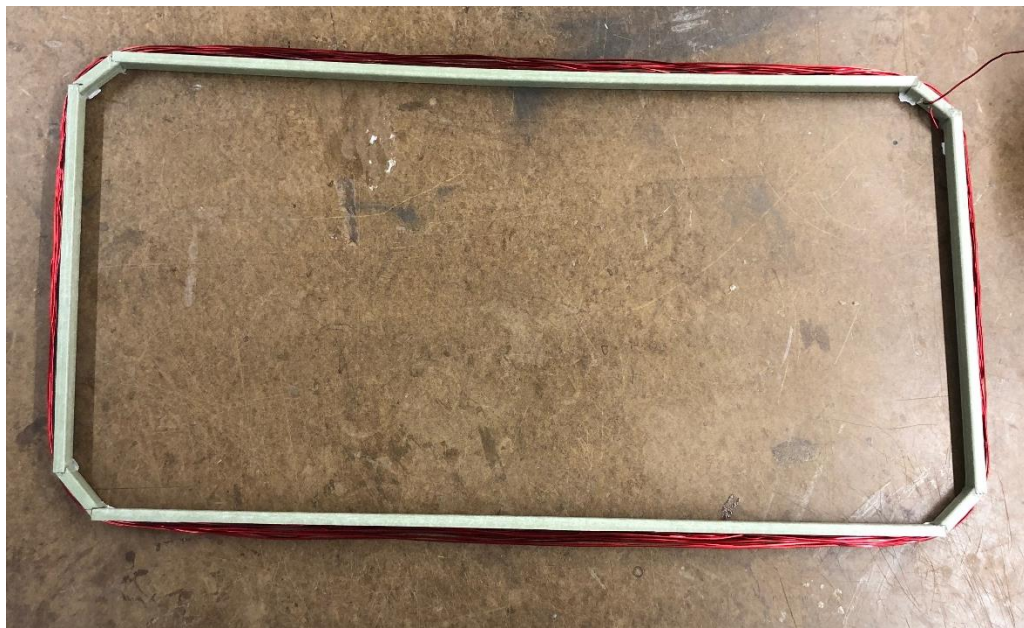

Figure 3.3
4. Once the 20 turns have been wound, thread the wire back out through the other hole. Figure 3.3 depicts a coil in this stage.
11. Once the 20 turns have been wound, thread the wire back out through the other hole. Figure 3.3 depicts a coil in this stage.